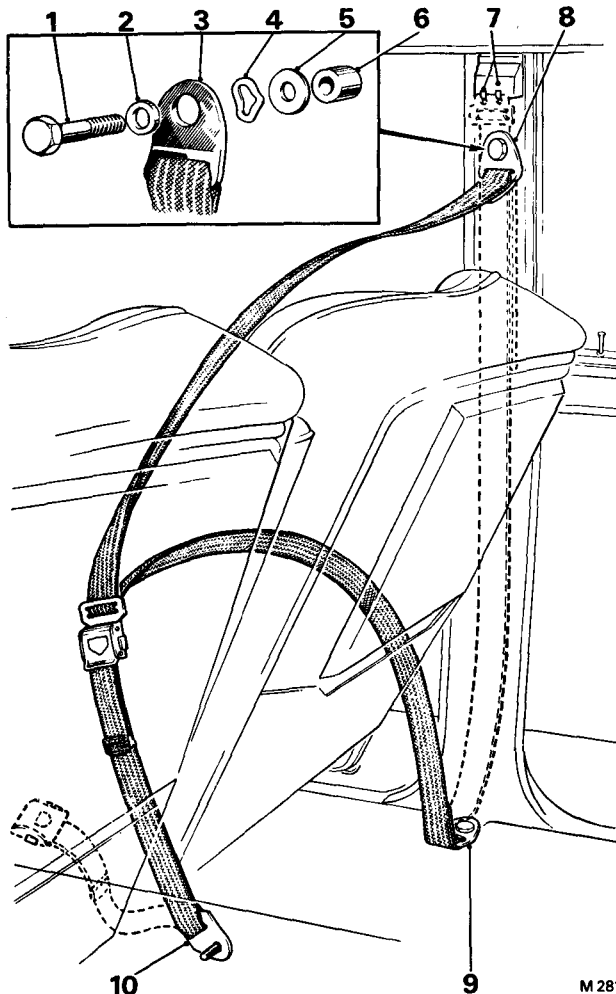

FIG. S104 FRONT SEAT STATIC BELT MOUNTINGS (Britax early type belt with 'Lyfe-Lok' buckle)
2. When fitting the $\frac{7}{8}$ in. diameter UNF seat belt anchorage bolts, refer to Figure S104; this shows an early Britax seat belt in position and the order of assembly of the anchorage bolts, distance pieces and washers in the belt mounting lugs.
- (a) **'Lyfe-Lok' buckle** (see Fig. S104). To lengthen the belt, grip the two arrowed finger pieces on the sides of the buckle with the thumb and forefinger and pull firmly upwards.